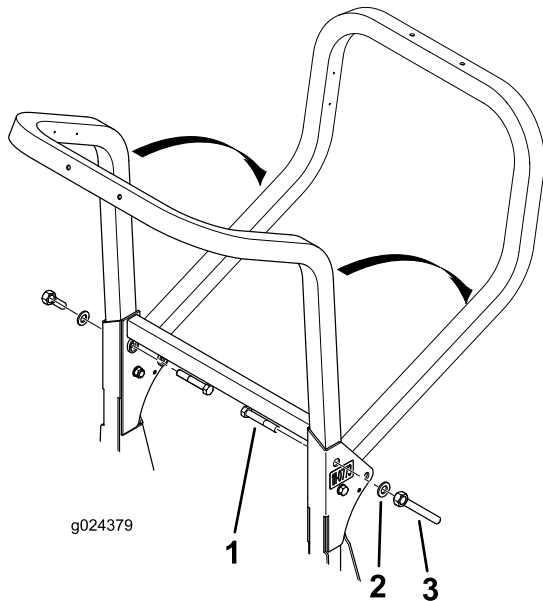

Figure 9
2. While holding the upper frame, remove the hand nuts, washers and retaining bolts from the pivot brackets (Figure 9).